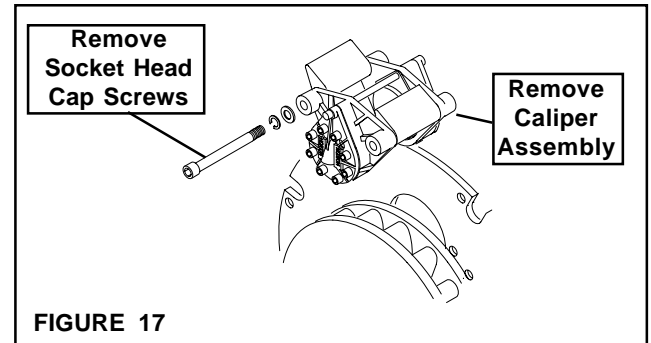

FIGURE 17
5. Remove the Caliper Assembly from the Mounting Ring (See Figure 17).
- a. Remove the Socket Head Cap Screw securing the Caliper to the Mounting Ring (See Figure 17).
- b. Slide the Caliper free of the Rotor and Mounting Ring (See Figure 17).